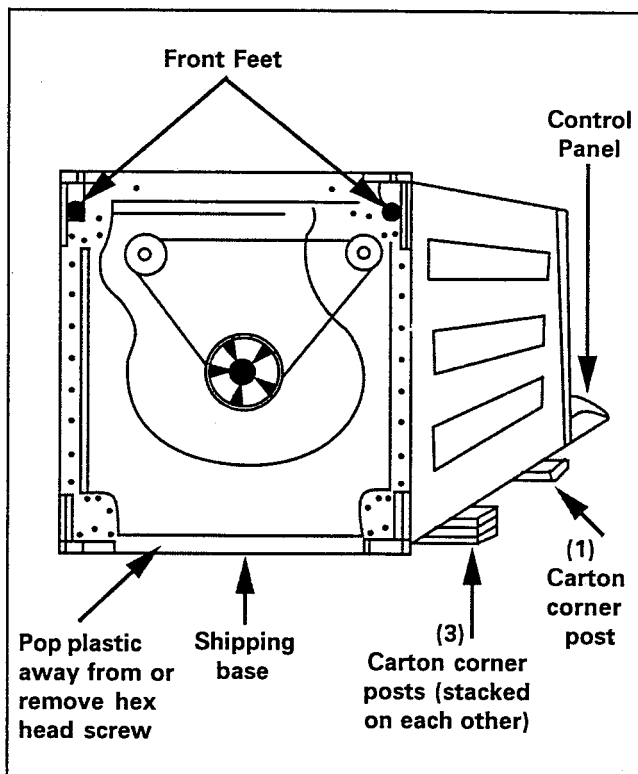

Figure 1-2
5. Remove the crate bottom from the washer. Pop the plastic loose from the screw located between the back feet, or remove the screw entirely with a screwdriver (**Figure 1-2**). Pull the plastic base away from the back feet. Grasping the plastic base on the sides, pull down and toward you to release the front feet from the slots and remove the base. Discard the base (it can be recycled). **RETURN THE WASHER TO THE UPRIGHT POSITION.**